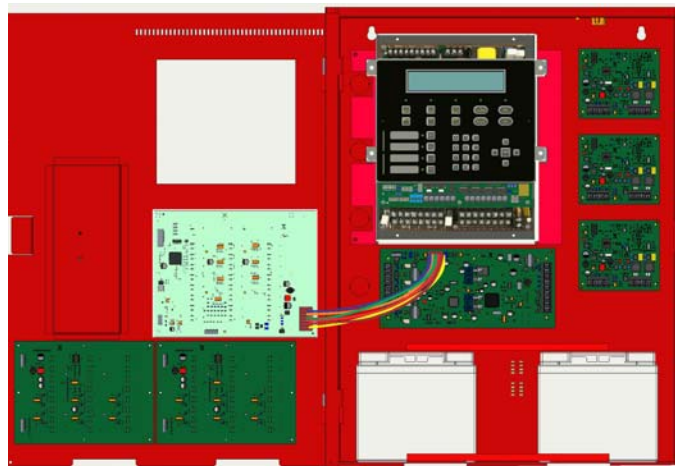

Figure 4 FIK-NVCM Connection to the FIK-EMG Touchpad
2. Connect the FIK-NVCM (P3) connector to the FIK-EMG Touchpad. See Figure 4 for location.